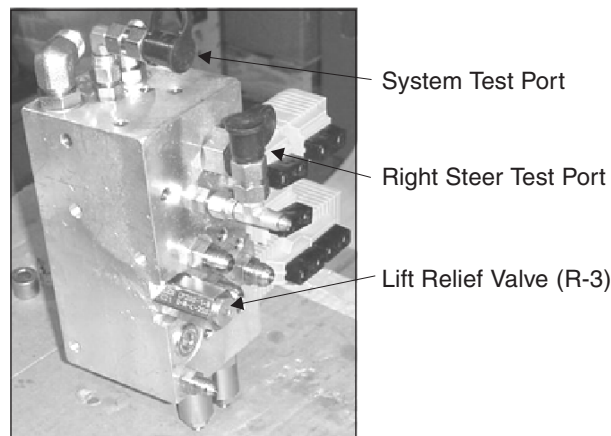

Figure 7.12—Test Ports and Lift Relief
1. Attach test gauge to the system test port (figure 7.12).
1. Attach test gauge to the right steer test port (figure 7.12).
- Attach test gauge to the system test port (figure 7.12).
- To adjust the relief setting, remove the external cap from the lift relief valve (figure 7.12).